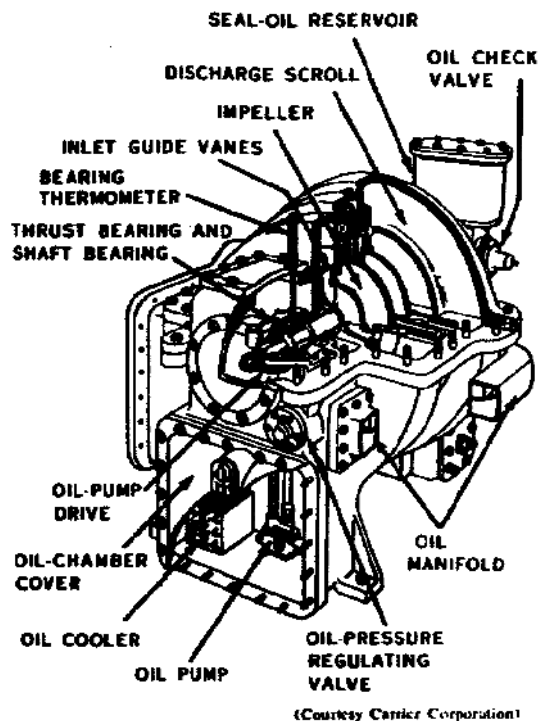

Figure 42. Compressor cutaway.
1. A cutaway view of the compressor is shown in figure 42. The easiest way to understand centrifugal compressor operation is to think of a centrifugal fan. Like the fan, the compressor takes in gas at the end (in line with the shaft) and whirls it at a high speed. The high-velocity gas leaving the impellers is converted to a pressure greater than the inlet. At normal speed, with R-11, the suction temperature is 65° F. below the temperature of condensation. At maximum speed, the compressor will produce a suction temperature of approximately 85° F. below the condensing temperature of R-11. Changing the speed of the compressor varies the suction temperature.